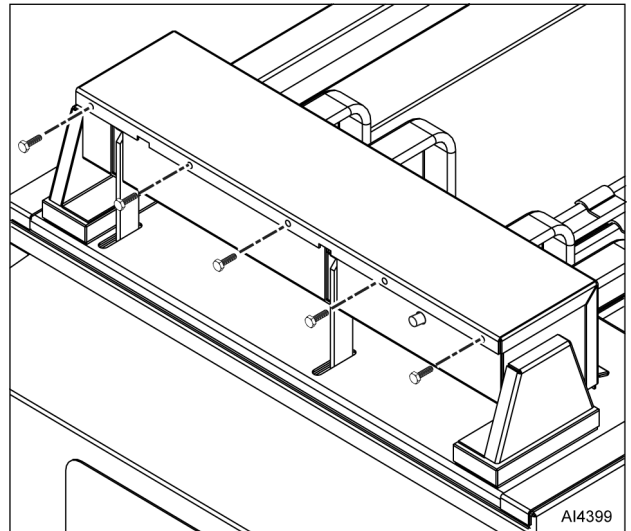

Fig. 3
2. Remove screws (Fig. 3) from rear of element head assembly.